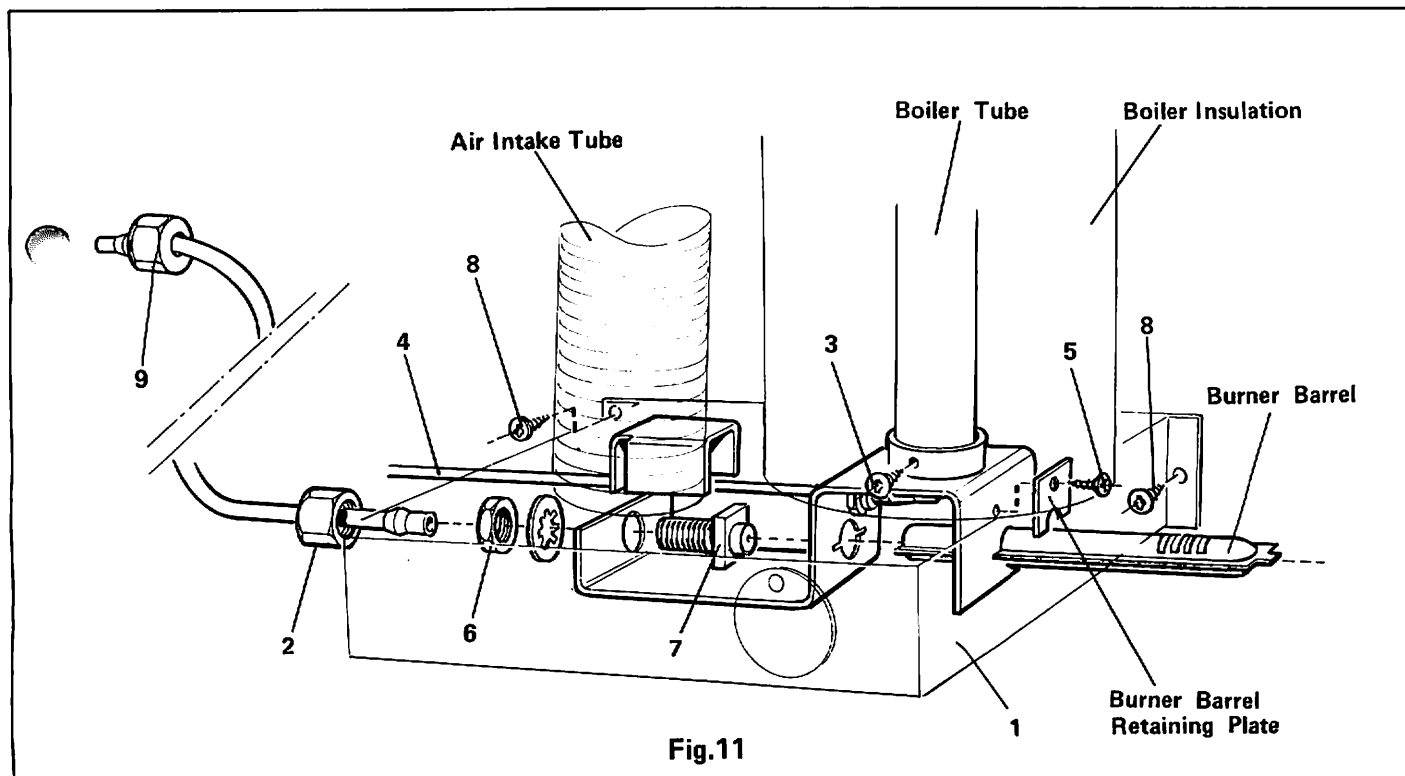

Fig.11
6. With a cross-headed screwdriver, remove the 3 screws (8, fig.11) then, from the rear, carefully withdraw the burner box (1) with the flexible air intake tube attached to it, and clean the inside of the burner box of soot and other deposits.
7. Unscrew the gas pipe union nut (9) then, pushing the boiler insulation upwards sufficiently to give access, undo the screw (3) holding the burner assembly to the bottom of the boiler tube.
8. Taking care not to strain the thermocouple tube (4), take the burner assembly away from the boiler tube and pull it carefully away from the boiler, just far enough to give access for the following operations.
9. Remove the screw (5) from the burner barrel retaining plate, then withdraw the burner barrel which should be examined, and cleaned by brushing and blowing it out with air.
10. Undo the gas pipe union (2) and then the lock-nut (6) which will enable the jet (7) to be removed. Clean the jet by washing it in alcohol and blowing it through with air.